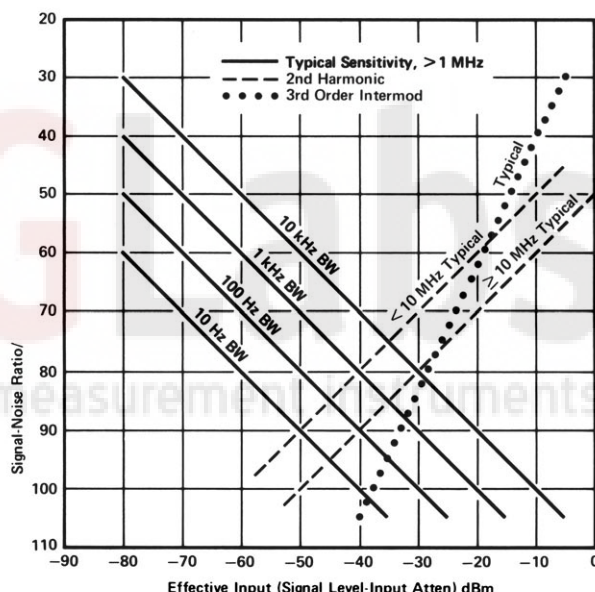

Figure 3. Optimum dynamic range
**Second harmonic distortion:** For a signal -30 dBm at the mixer and > 10 MHz, second harmonic distortion > 70 dB down; 60 dB down for signals < 10 MHz. Refer to Figure 3 for typical second harmonic distortion levels.